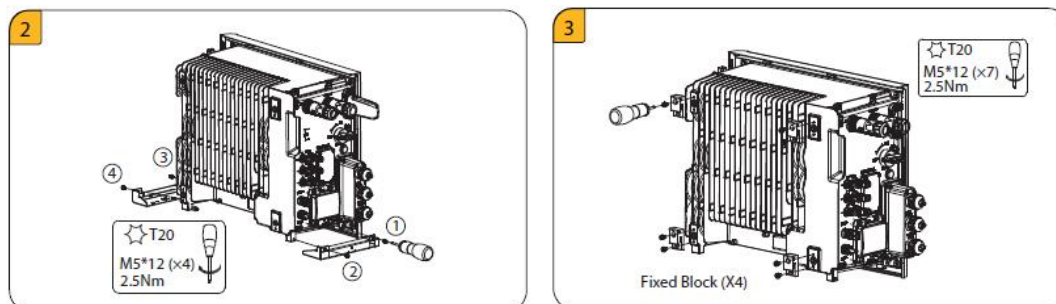

Figure 5-7 Four hooks fixation diagram
7. Take out the four hooks for wall bracket from the package, assemble them with screws M5*12 (tool: T20 screwdriver, torque: 2.5 Nm). Refer to Figure 5-7 below.